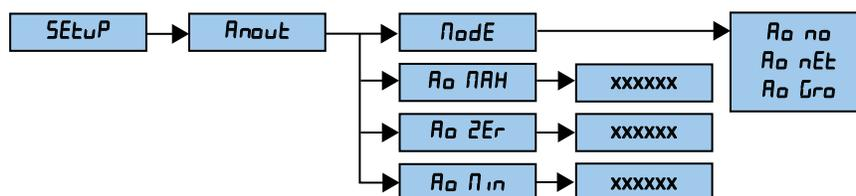

Figure 4-7. Analog Output Menu
1. Enter setup mode and go to the  $R_n \text{ OUT}$  menu (see Figure 4-7 on page 37).